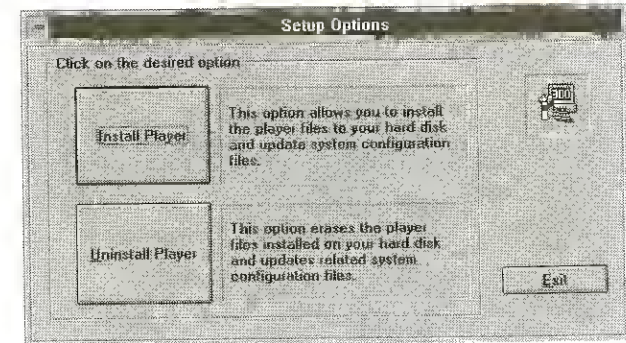

Figure 3-3: The Setup Options dialog box.
6. In the Welcome dialog box, choose Continue. The Setup Options dialog box in Figure 3-3 appears.
Your 3DO Blaster's software is now installed. You can reverse the installation process resulting in removal of all 3DO software and the installation directory created by SETUP.EXE. To do that, choose Uninstall Player in the Setup Options dialog box shown in Figure 3-3.